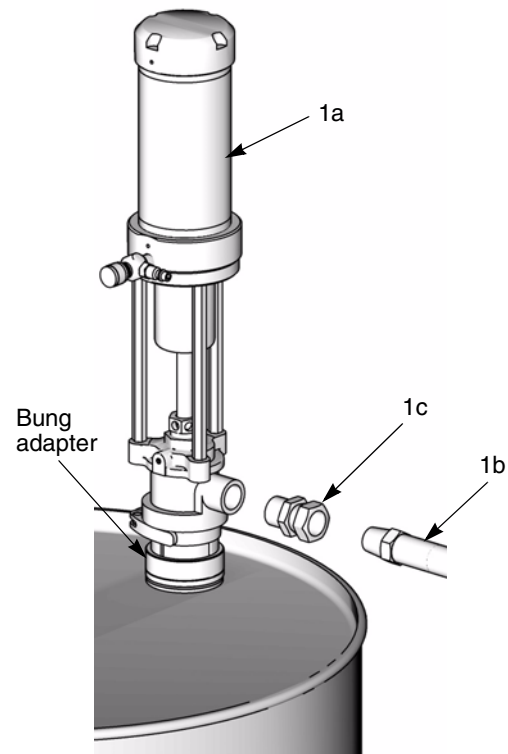

FIG. 3. Standard 2:1 Kit
3. Install swivel fitting (1c) in pump fluid outlet. See FIG. 3.